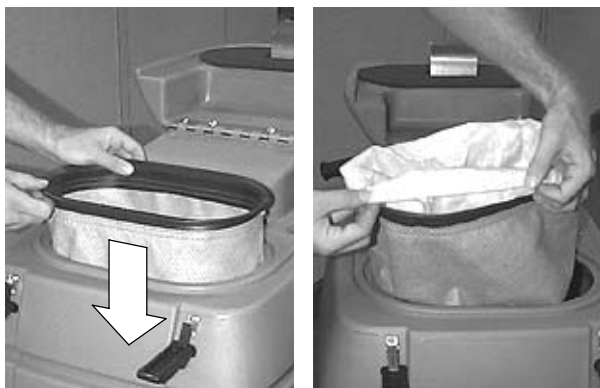

FIG. 11
1. Open vacuum machine cover and install cloth filter bag, make sure that the bag edge is properly seated on compartment rim (Figure 11).
For easy debris disposal and to prolong cloth bag life, use a paper vacuum bag inside the cloth bag. Tuck the top of paper bag around outside rim of cloth bag. Never use paper bag without cloth filter bag in place. Do not reuse paper bags - always dispose (Figure 11).